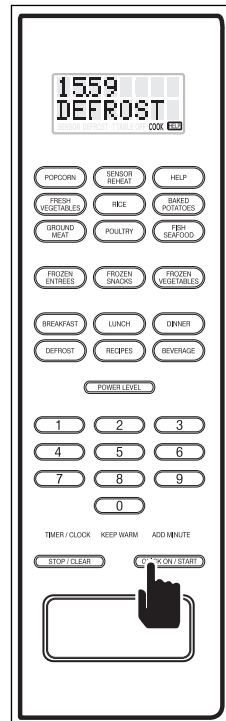

Figure 3-58.
4. Press the QUICK ON/START key to start the auto defrost process and the display will show the time as it counts down along with the word “DEFROST” (See Figure 3-58).